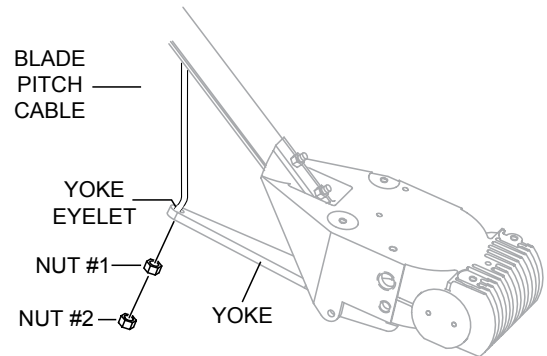

Figure 11. Pitch Cable Yoke Attachment
Centrifugal Safety Stop switches are equipped with 2 wires. Connect bottom **BLACK/RED** wire (Figure 11) directly to engine ground.
Operator Presence switches are equipped with 2 wires. Connect bottom **RED** wires (Figure 11) directly to the Centrifugal Stop Switch top and bottom connections.
2. Connect the black tail wire from the engine to the **top black** safety stop wire from the centrifugal stop switch as shown in Figure 11.
3. Using a 10MM socket, remove the existing bottom mounting screw on the recoil starter cover (Figure 11) and connect the **bottom black/red** wire from the centrifugal stop switch.